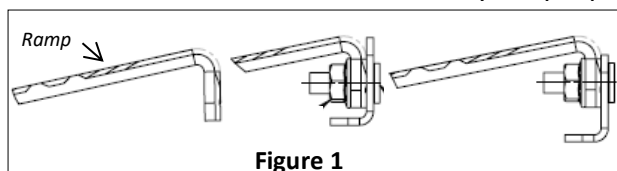

Figure 1
- Measure the height of the threshold and choose the suited configuration (fig 1.).